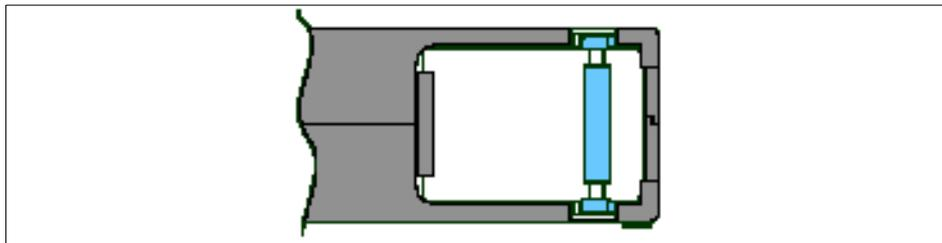

Figure 2-13 Correct leader pin placement
- ▶ When there is evidence of poor handling or shipping, ensure the cartridge leader pin (Figure 2-13) is undamaged before inserting the cartridge in a drive or library, as a bad cartridge can damage a drive.